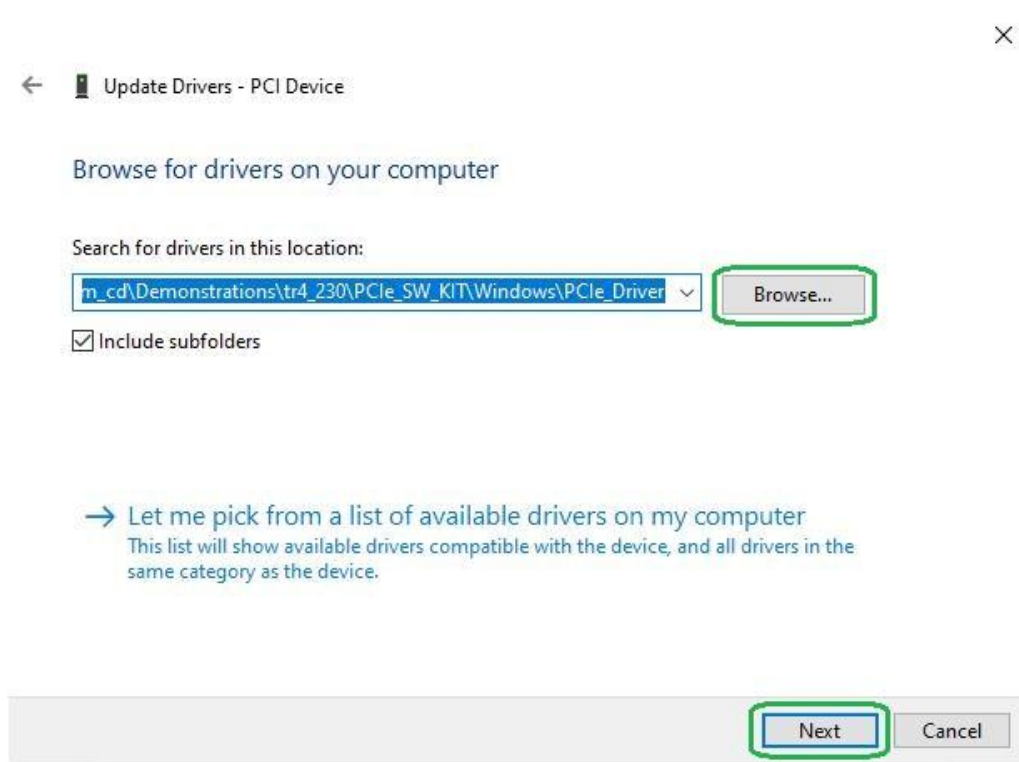

Figure 6-5 Browse for driver software on your computer
9. In the **Browse for driver software on your computer** dialog, click the **Browse** button to specify the folder where `altera_pcie_din_driver.inf` is located, as shown in Figure 6-5. Click the **Next** button.